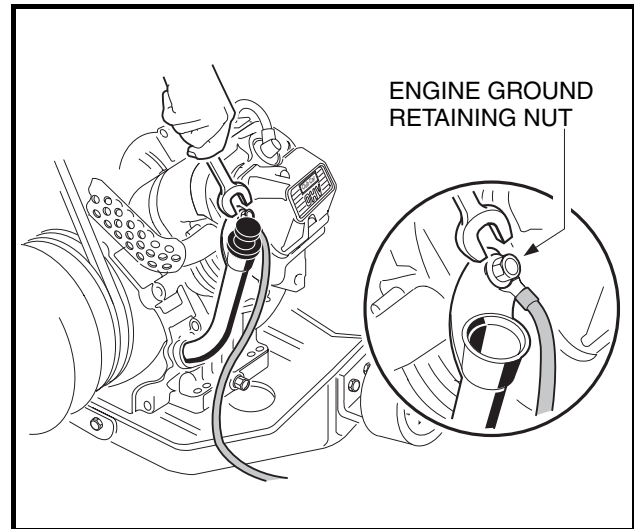

Figure 16-14 Engine Ground Wire
- 4.6. Remove retaining nut and disconnect the engine ground wire from the oil filler tube mounting bracket **(Figure 16-14, Page 16-9)**.